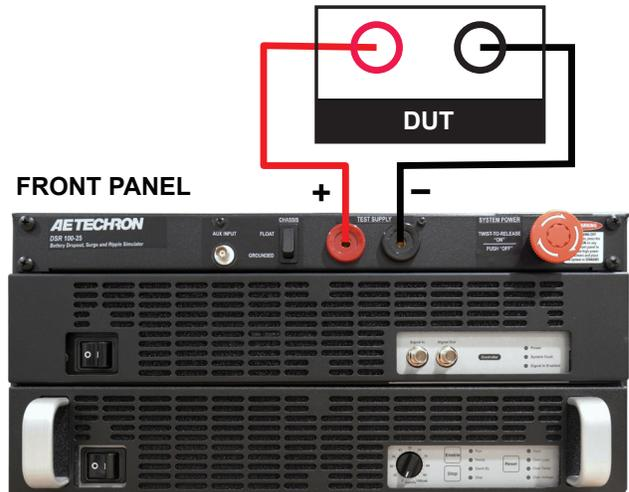

Figure 4.4 – Connections for Low-Voltage Testing
3. **Connect the Outputs:** Using the supplied mating output connectors and wiring appropriate for your application, connect from the DSR 100's positive and negative test supply connectors to the device under test. See **Figure 4.4**.